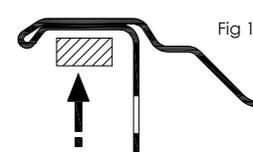

Fig 1
9. If supplied separately attach the self adhesive foam sink seal around the recess under the sink rim (fig. 1). Ensure to cover the entire perimeter, bend the foam seal around the corners of the sink. Trim the seal using a Stanley knife or sharp scissors.